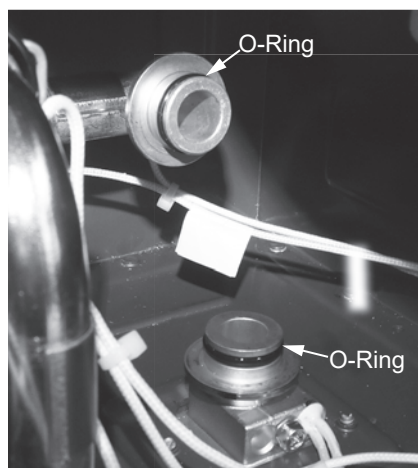

Figure 219 - Locating the O-rings
**19** Locate the two (2) O-rings on the exposed water pipe connections as shown in Figure 6 and remove them and install the new O-rings. Dispose of the old O-rings properly. See Figure 219.